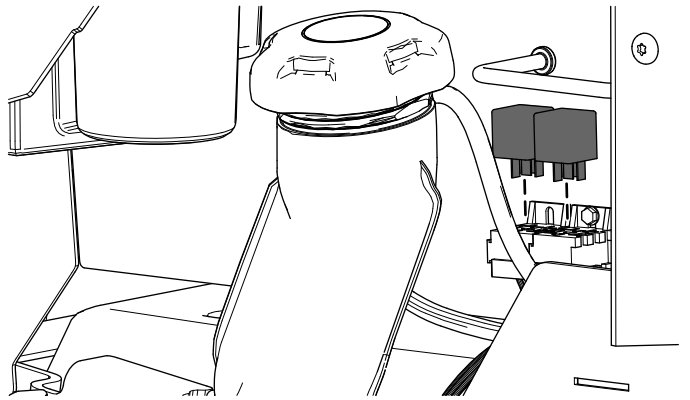

Figure 17
5. Install the 2 relays (Figure 17).